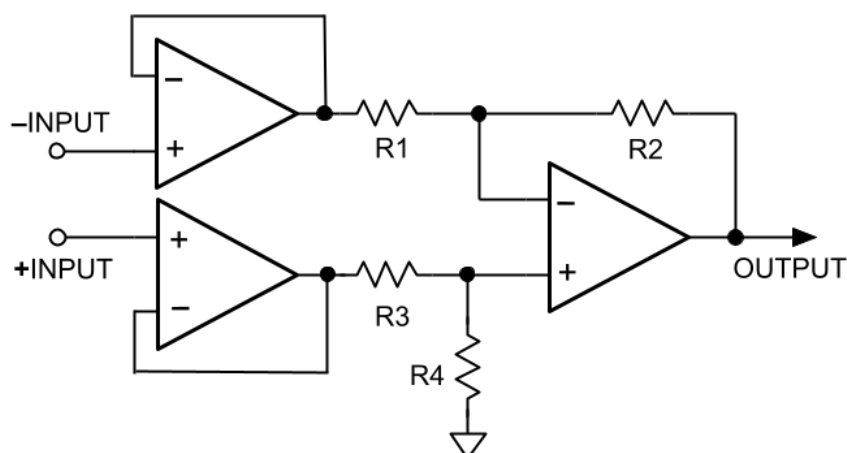

Figure 2: Simple Instrumentation Amplifier
The most common work-around to deal with this lack of matching is to buffer each of the two inputs with op-amps. These two op-amps can be configured for unity gain or more, as long as the gains and offset voltages are closely matched. Such a configuration is an instrumentation amplifier (IA) and is shown in Figure 2.
The IA appears to solve the problems cited above. It does not completely. Although not shown in Figure 2, -INPUT and +INPUT must have resistors connected to ground to supply a path for the op-amps input bias current. The resistors' values can be large (perhaps in the many k Ω range) and must be closely matched. To the extent there is a mismatch in resistance, CMRR is degraded. As before, further degradation occurs due to the parasitic capacitance present both between the inputs and ground. Any capacitance mismatch results in a degradation of CMRR.